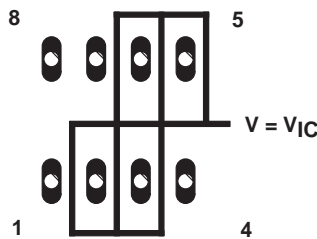
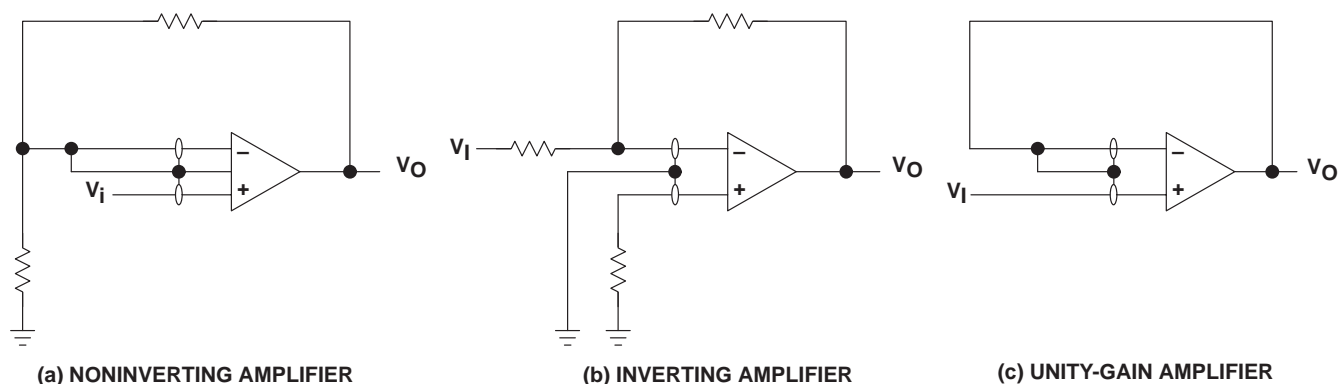

Figure 38. Isolation Metal Around Device Inputs (P package)
Figure 42. Guard-Ring Schemes
- Isolate the device from other potential leakage sources. Use a grounded shield around and between the device inputs (see Figure 38). Leakages that would otherwise flow to the inputs are shunted away.
Because of the extremely high input impedance and resulting low bias-current requirements, the TLV232x is well suited for low-level signal processing; however, leakage currents on printed-circuit boards and sockets can easily exceed bias-current requirements and cause a degradation in device performance. It is good practice to include guard rings around inputs (similar to those of Figure 38 in the Parameter Measurement Information section). These guards should be driven from a low-impedance source at the same voltage level as the common-mode input (see Figure 42).